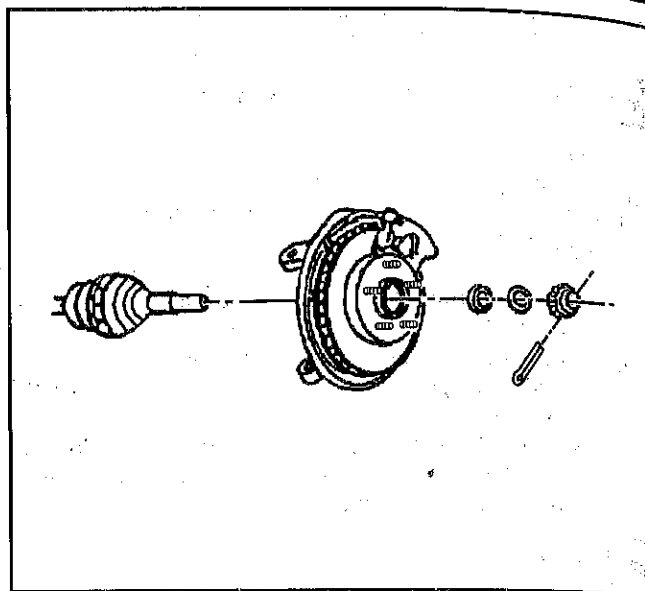

Figure 25—Drive Axles and Components
Remove or Disconnect (Figures 25 through 34)
3. Cotter pin, retainer, nut, and washer (Figure 25).
Install or Connect (Figures 25, 29, 31, and 32)
- 1. Insert and draw up outer C/V joint splined shank into knuckle hub then secure inboard C/V joint flange to companion flange with bolts (do not tighten bolts) (Figure 25).